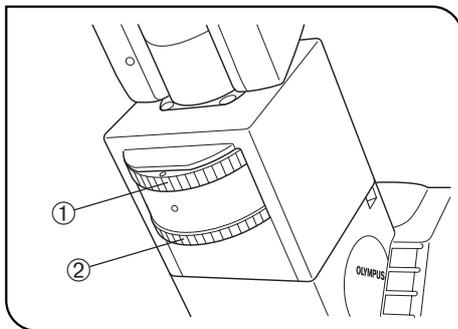

Fig. 57
4 Centering the Phase Contrast Ring Slit (Figs. 57 to 59)
2. When the U-BI90CT binocular observation tube is used, rotate the CT turret ① to position "CT". When the observation tube in use is other than the U-BI90CT, remove an eyepiece and attach the U-CT30 centering telescope in place. (Fig. 57)
4. Rotate the focus ring ② (or the knurled section when the U-CT30 is used) to focus on the ring slit ③ and the phase plate ④ of the objective. (Figs. 57 & 58)